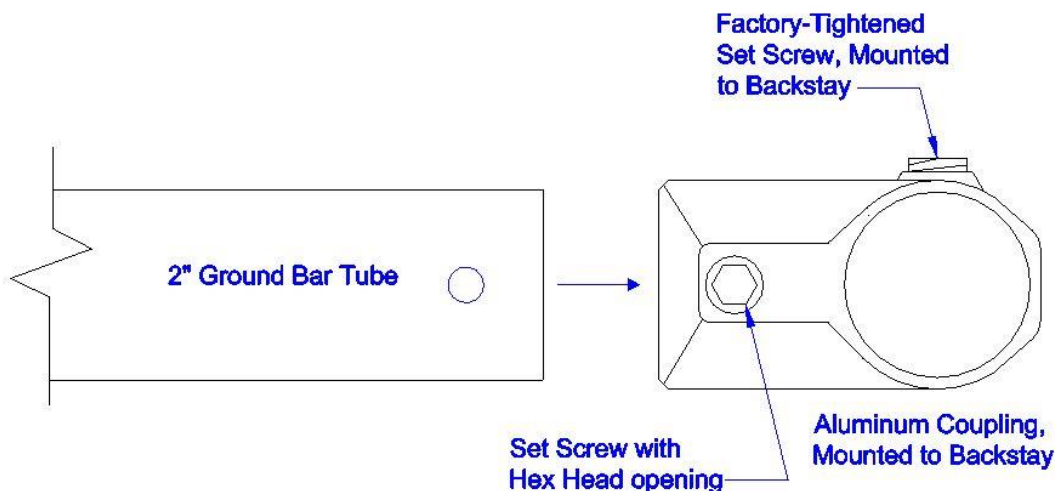

Figure 2. Ground Bar tube with Set Screw Coupling.
10. Place ends of Ground Bar onto castings in back of Upright/Backstay Assemblies. Align holes in groundbar tube with holes in casting and tighten set screws with Hex Key until snug. (See Figure 2)